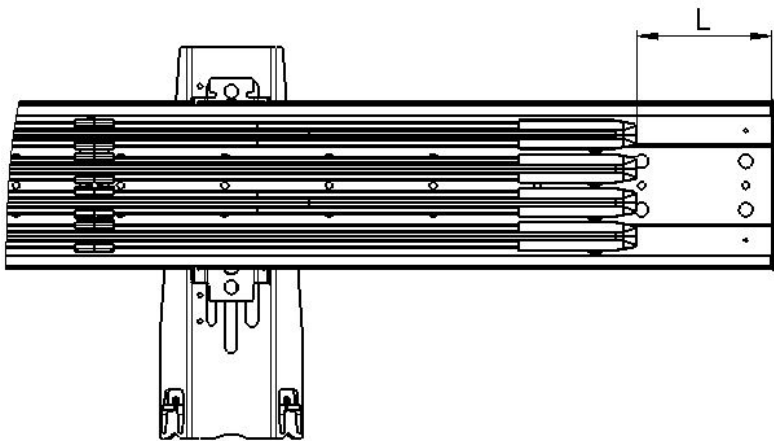
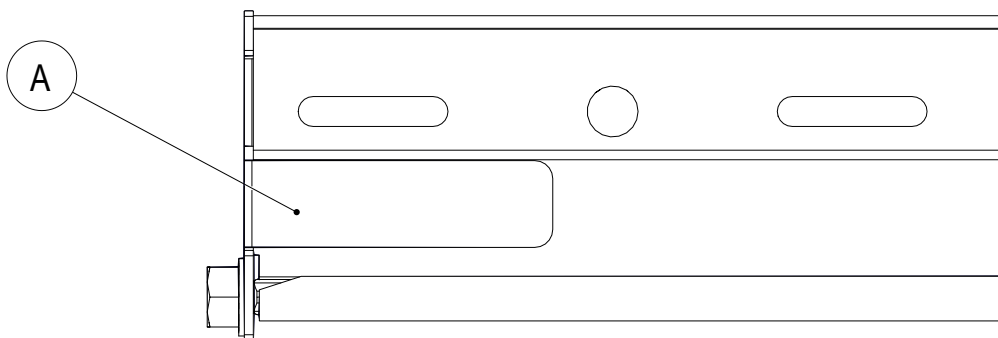
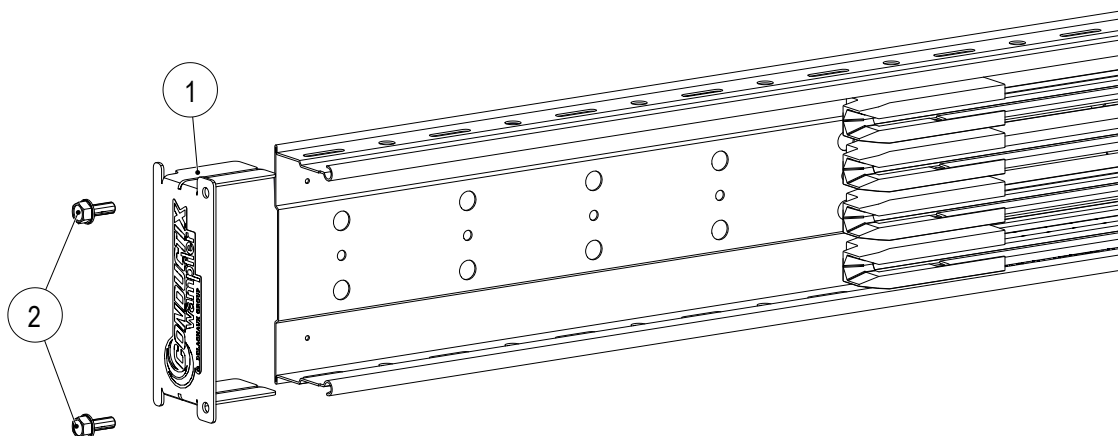

Fig. 31: Distance from end caps to end assembly
Fig. 32: End plate bayonet connector (A)
Fig. 33: Screw end plate (1) to ProShell support profile end
2. Install the end assemblies at both ends of the ProShell support profile at a corresponding distance from the end caps (see Fig. 31). To do this, slide the bracket (A) of the end plate onto the straight surface of the ProShell support profile and install the hexagon screws M6 with an open-end wrench (see Fig. 32 and Fig. 33).